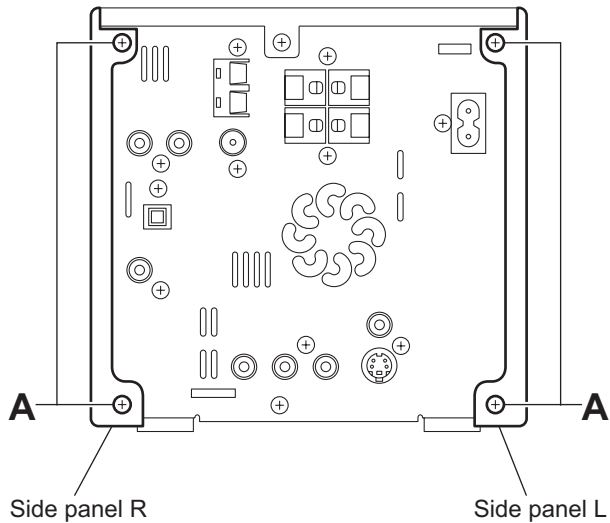

Fig.1
3.1.1 Removing the side panel L and side panel R (See Figs.1 to 4)
- (1) From the back side of the main body, remove the four screws **A** attaching the side panels L/R. (See Fig.1.)